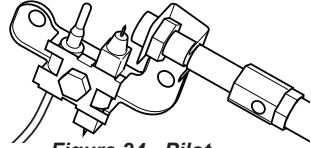

Figure 24 - Pilot
- With control knob pressed in, push down and release ignitor button. This will light pilot (Figure 24) The pilot is attached to the rear of the front of burner. If needed, keep pressing ignitor button until pilot lights. *Note: If pilot does not stay lit, refer to Troubleshooting, pages 26 through 29. Also contact a qualified service technician or gas supplier for repairs. Until repairs are made, light pilot with match. To light pilot with match, see Manual Lighting Procedure.*